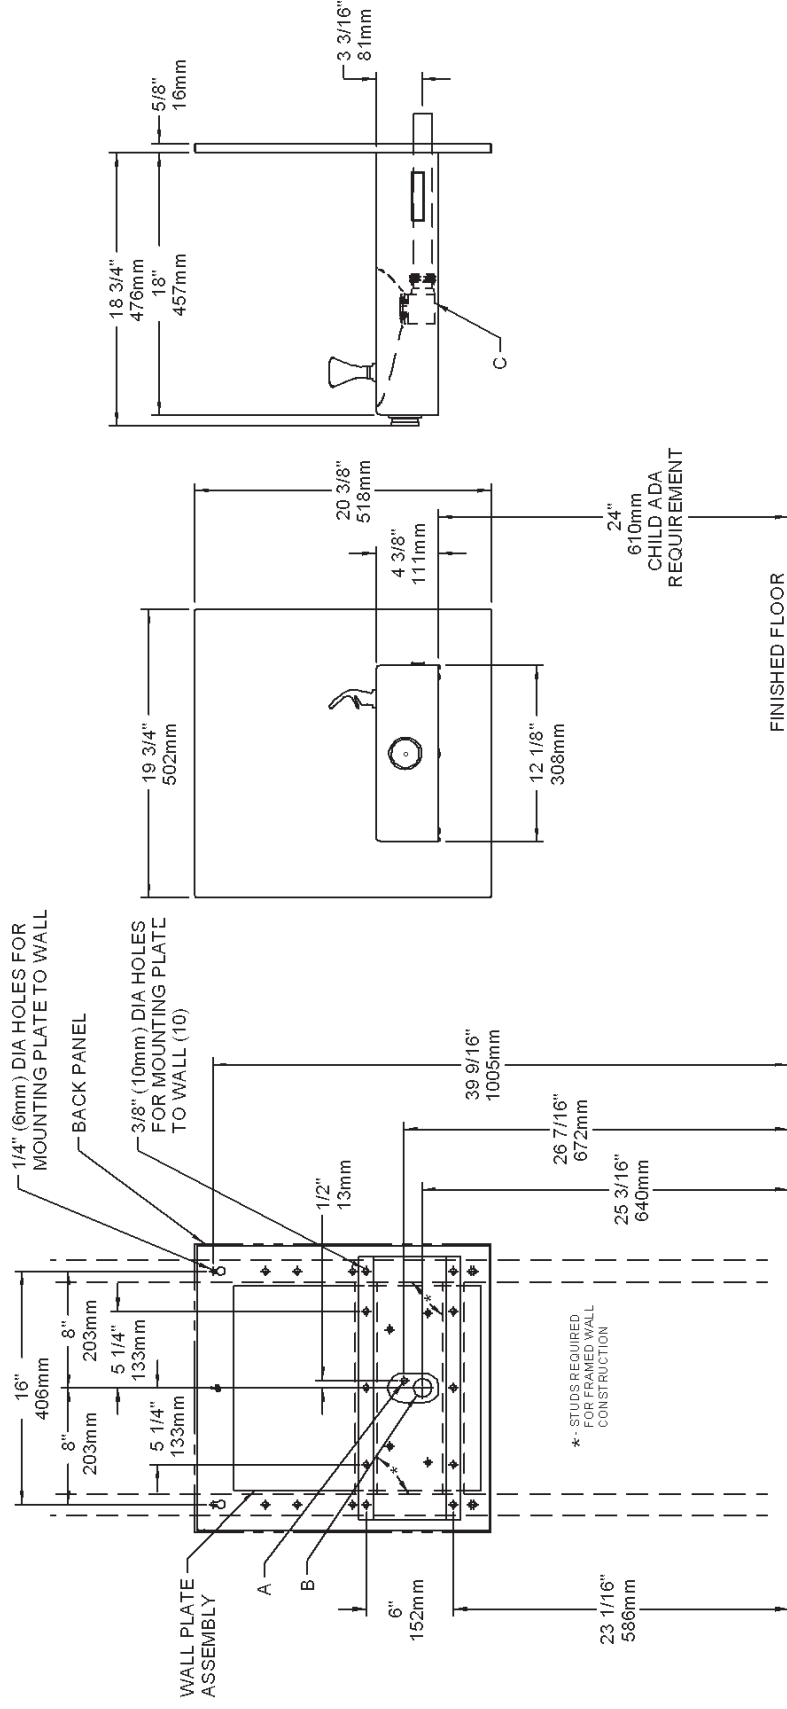

FIG. 3
- 1. Wall should already be framed for the fountain** using the positioning dimensions shown in Figure 3. Shown dimensions pertain to installation location (framing must support up to 300 lbs. weight). These dimensions are required for compliance with ANSI Standard A117.0.
- 2. Attach wall plate assembly to wall** as shown in Figure 3 using 5/16" x 2" long bolts and flat washers (not provided). Tighten securely. (Fastener must match wall type, i.e. lag screws for wood studs, bolts and anchors for masonry construction.)
- 4. Install rough-in plumbing** as shown in Figure 3. Waste line should extend a minimum of 2" (51mm) thru the back panel. Run supply water inlet line thru back panel. Install a service stop (not provided). Turn on supply water and flush thoroughly.
- 5. Remove bottom access panel** from fountain basin and save the screws. Install the fountain to the back panel using (4) 5/16" x 3/4" long screws and washers (provided) thru holes in back panel. Tighten securely.